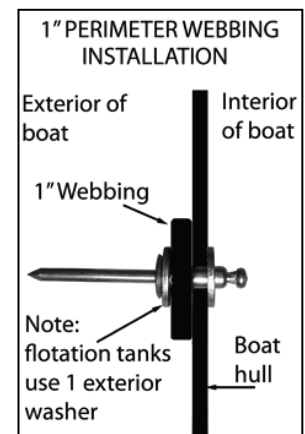

Figure 2
- 5) Now you can start to close each rivet making sure you place a washer on the interior of the hull (figure 2).